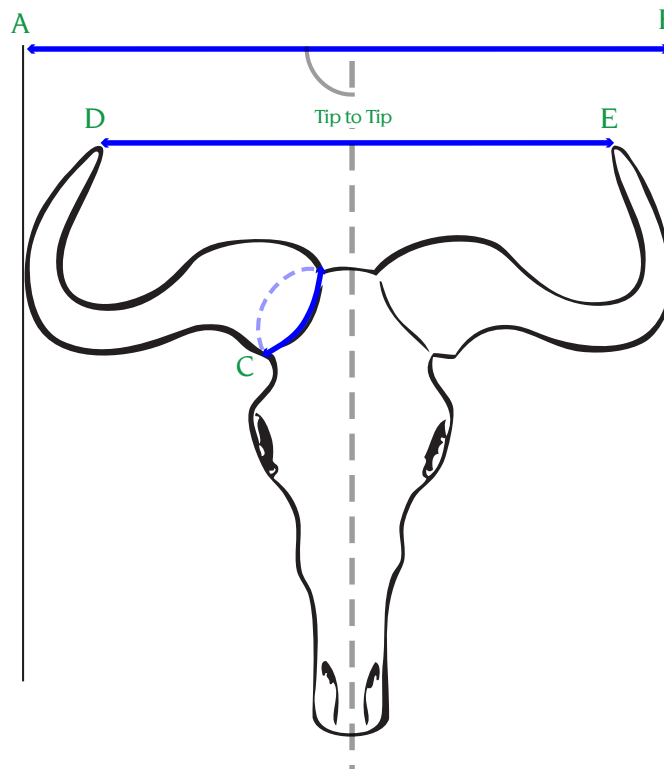

Figure 1 Blue, Cookson's, Nyasaland, or White-bearded Wildebeest
3. Spread. Measure the spread, tip to tip. (Figure 1, D–E) N.B. The tip-to-tip measurement must be 5% less than the greatest spread. If not, the animal falls into the nontypical category.